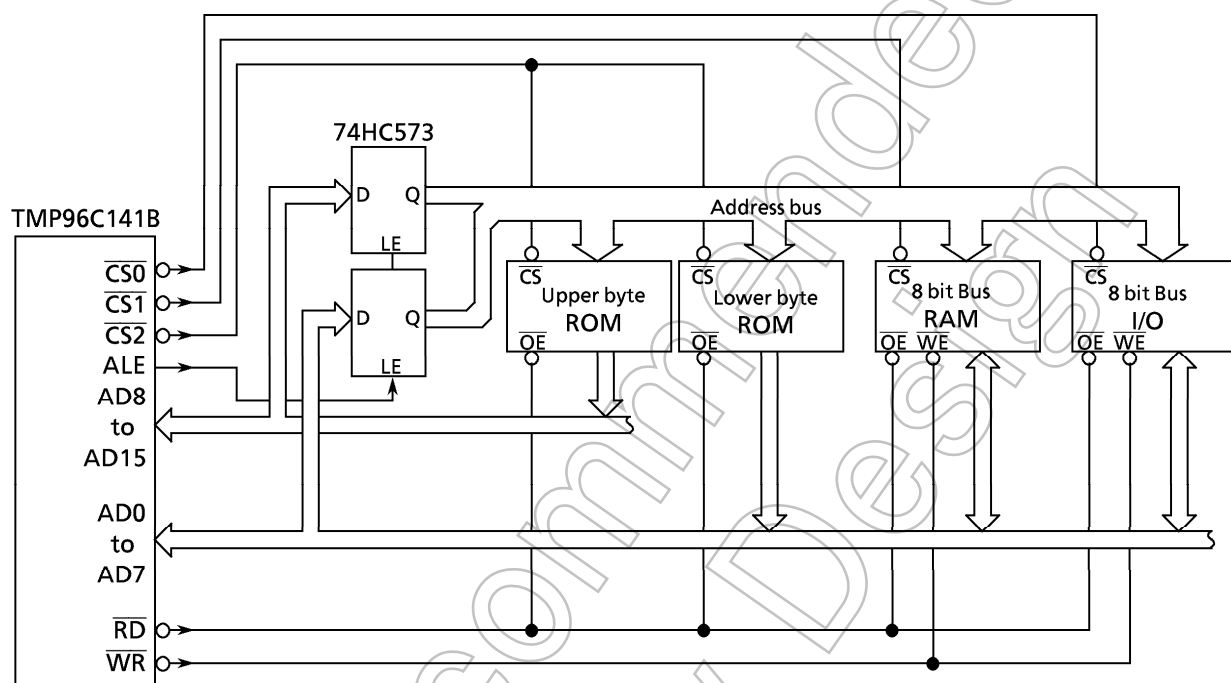

Figure 3.6 (1) Example of External Memory Connection (ROM = 16 bits, RAM & I/O = 8 bits)
Figure 3.6 (1) is an example in which an external memory is connected to the TMP96C141B. In this example, a ROM is connected using 16-bit Bus; a RAM is connected using 8 bit Bus.